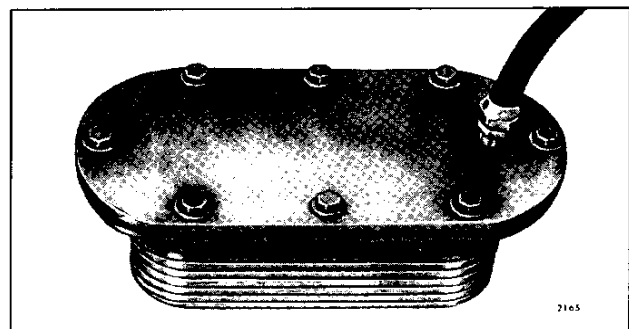

Fig. 3 – Preparing Oil Cooler Core for Pressure Test
1. Make a suitable plate and attach it to the flanged side of the cooler core. Use a gasket made from rubber to assure a tight seal. Drill and tap the plate to permit an air hose fitting to be attached at the inlet side of the core (Fig. 3).